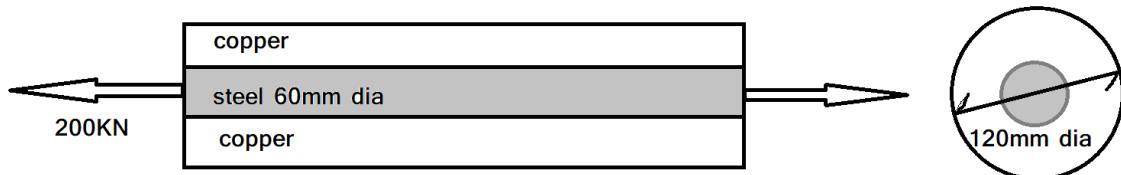

figure 2
- (c) As shown composite section in figure 2, determine stresses and load take by each material. Take E=220000 N/mm² for steel and E=110000 N/mm² for copper. 04